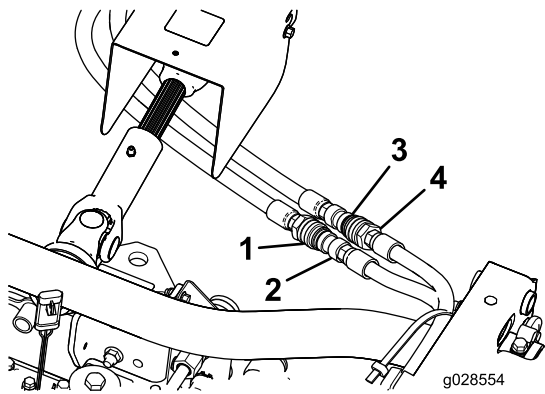

Figure 6
1. Assemble the male quick-connect coupler onto the hose (3/8 x 79-1/2 inches) as shown in Figure 6 and torque the coupler to 37 to 45 N-m (27 to 33 ft-lb).
- Assemble the female quick-connect coupler onto the hose (3/8 x 56-1/2 inches) as shown in Figure 6 and torque the coupler to 37 to 45 N-m (27 to 33 ft-lb).